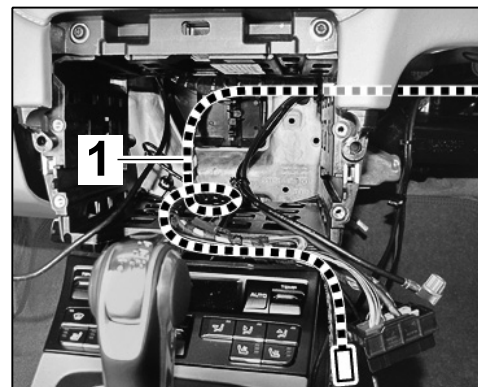

Figure 7
- 2.3.3 Route GPS antenna line \Rightarrow *Figure 7*